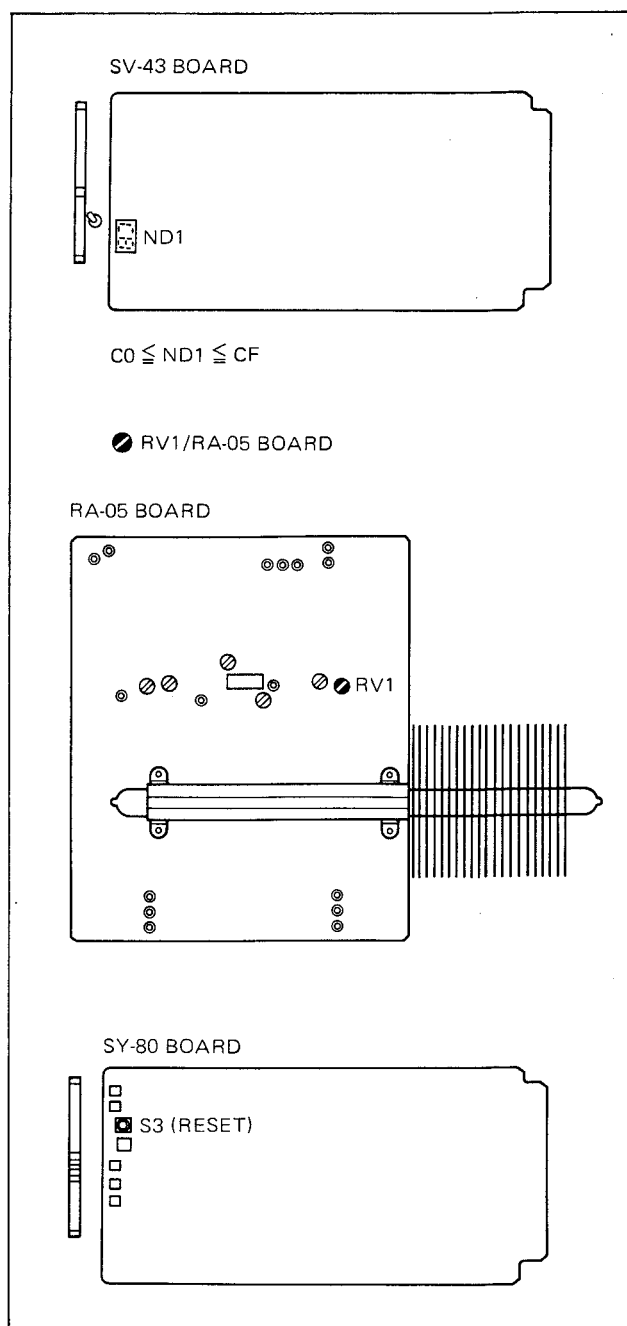

Fig. 6-7. S Reel Motor Torque Adjustment
- d. After motor stops, confirm that the number shown in Fig. 6-7 is indicated by the display element ND1 on the SV-43 board. If necessary, adjust RV1 on the RA-05 board.